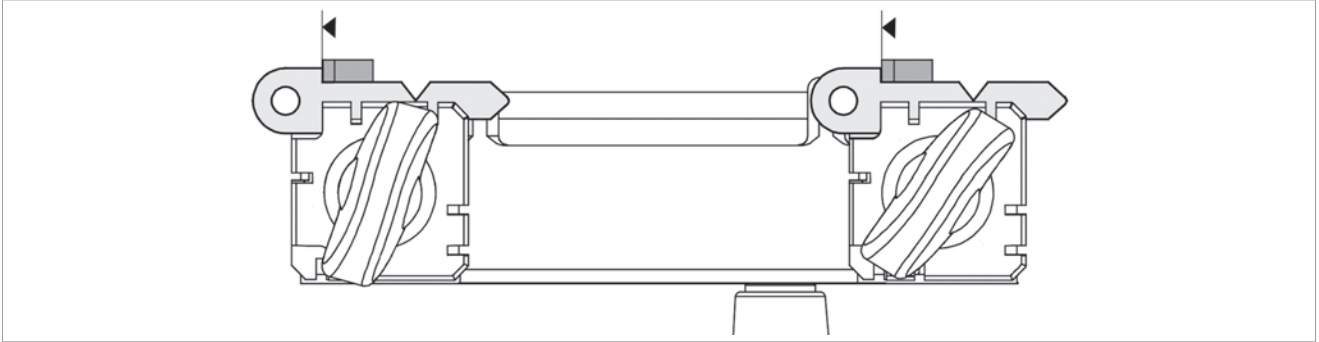

Fig. 17
- 2) Place the adjustment keys (provided) on the clamps (Fig. 17).
- 4) Turn the shoulder gauge rod towards the operator so that the gauges (Q1) are in contact with the adjusting plates (Fig. 17).